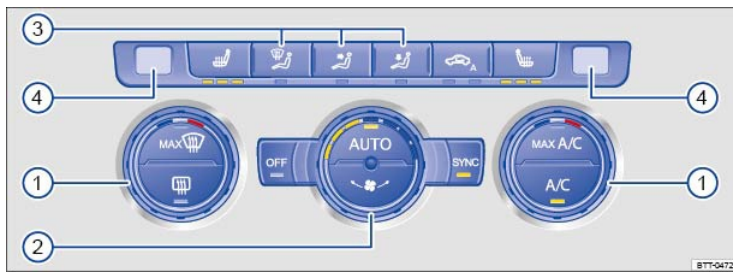

Fig. 165 In the center console: Climatronic controls.
Button / Knob	More information ⇒ Fig. 165 .
① 	Temperature: Left and right sides of the vehicle can be set to different temperatures. Turn the knob to set the temperature.
② 	Fan: The speed of the fan is automatically adjusted depending on the vehicle speed in order to help prevent unnecessary noise. The fan can also be adjusted manually.
③ 	Air distribution: Air flow is automatically adjusted to a comfortable level. It can also be manually adjusted with buttons ⇒ Fig. 165③ .
④ 	Left-side and right-side digital temperature displays.